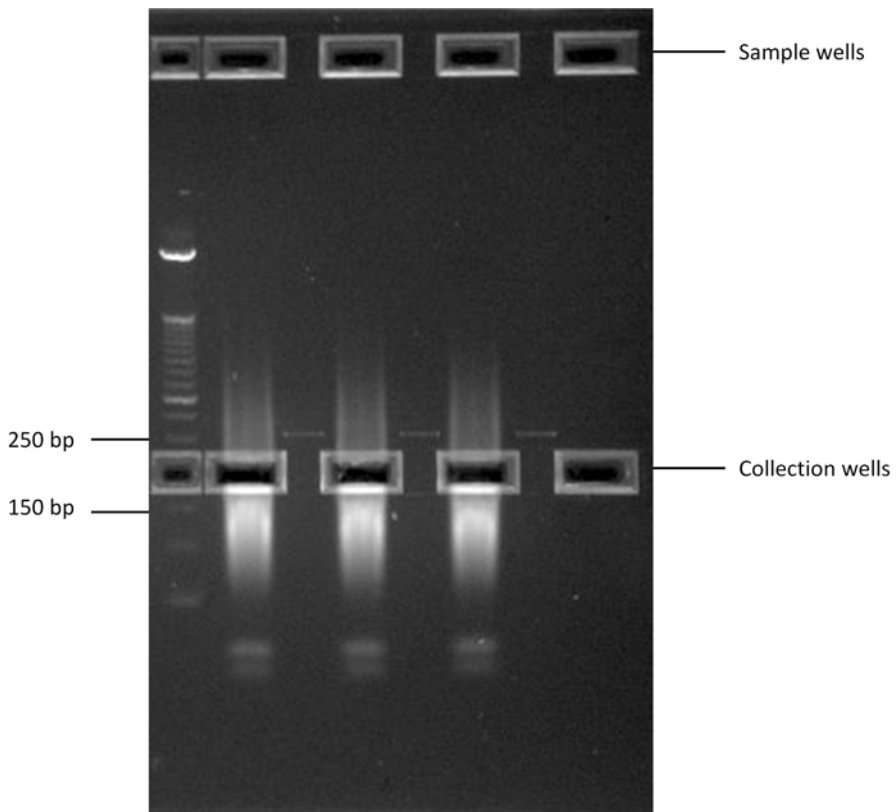

Figure 2 Elution of an approximately 200 bp region from SOLiD Library Size Selection gel.
- 5 When the 200-bp band from the marker lane is in the center of the collection well, stop the run if the run has not already stopped (see Figure 2).